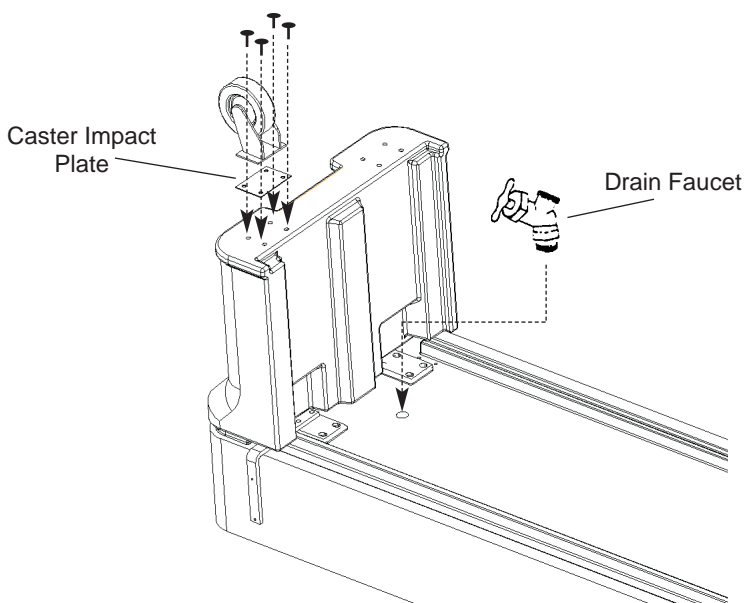

Figure 3
- Step 6: Thread Drain Faucet into drain on underside of basin until tight (see Figure 3).
- Step 9: If no storage pack, place Caster Impact Plate (excluding 4 ft./6 ft. Youth Food Bars) and Caster on one side of leg and attach with four 3/8" Hex Head Bolts (shorter bolts). Repeat procedure for the remaining three casters (see Figure 3).
- Step 1: Remove Sneeze Guard Post End Shield by unscrewing nylon thumbscrews. Remove paper from both sides. Reattach to Sneeze Guard Post. Repeat procedure for other End Shield (see Figure 3).